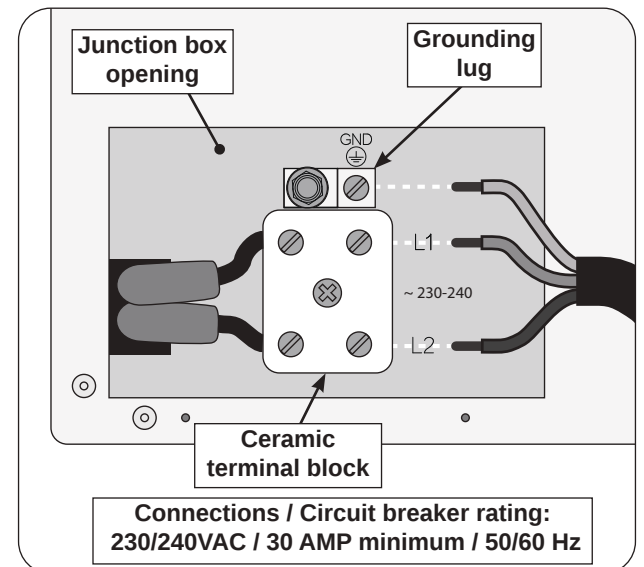

Fig. 31-3 Wire connection diagram
4. Connect the wires to the ceramic terminal block. Reference the wiring information below and Fig. 31-3.